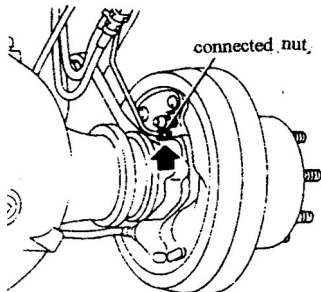

Fig.1-1
- (1) Raise front end of forklift truck and support frame with wooden blocks.
- (2) Remove mast assemblies.
- (3) Slightly raise axle with a hoist and place wooden blocks under differential gear carrier and transmission case.
- (4) After placing a pan under axle case, loose oil plug, drain oil from axle case.
- (5) Disconnect brake nuts from left and right cylinders.(see fig.1-1) .